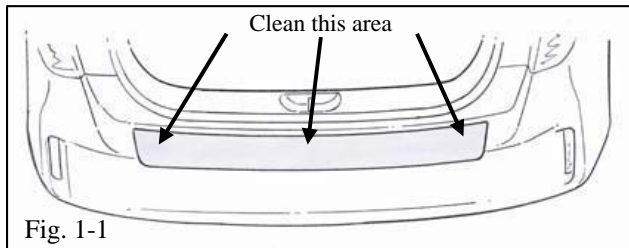

Fig. 1-1
- STOP** (a) Clean and degrease the top surface of the rear bumper with a non-scratch cloth and a VDC approved cleaner and cleaning method (Fig. 1-1). Do not allow the cleaner to air dry.